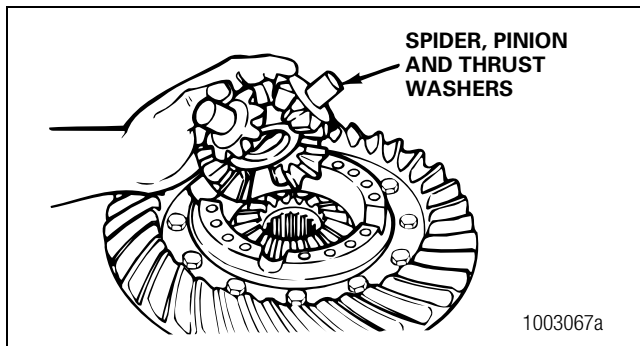

Figure 5.17
11. Install the spider, differential pinions and thrust washers into the flange case half. Figure 5.17.